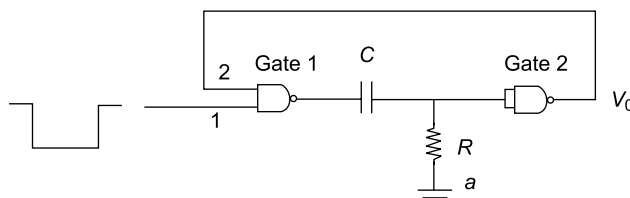

Fig. 9.61
- 3 Justify that Fig. 9.61 behaves as an monostable multivibrator